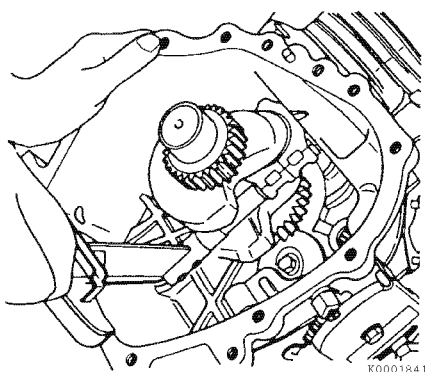

Figure 6-98
- Apply a light coat of clean engine oil to the rod cap bolts. Install the connecting rod cap. Tighten the connecting rod bolts **Figure 6-98** to the specified torque in two stages as shown in chart below. See *Special Torque Specifications on page 6-17* for specifications.